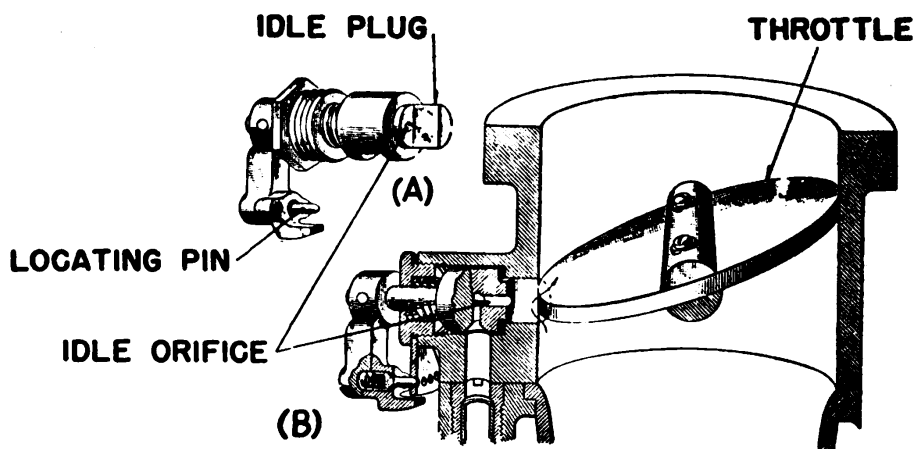

Figure 48.—Idle device used in Stromberg float-type carburetor.
The idle orifice employed in Stromberg carburetors is contained in a plug such as you will see in figure 48, view (A), the actual construction varying somewhat in different carburetor models. The plug that contains the idle orifice is cylindrical, but is cut away at the end to form a semi-cylindrical projection. As you will see in view (B), the end of the projection extends through the carburetor casting to the edge of the throttle valve.
of the open segment of the plug, view (B), is above the edge of the throttle valve, and the other half is below the edge. The upper end of the opening is in communication with the partial vacuum in the manifold above the throttle valve, and the lower end is open to the inside of the carburetor below the throttle valve. The suction in the manifold causes air from below the throttle valve to pass in through the open quarter-segment above the valve, as indicated by the curved arrow, figure 48, view (B). In passing through the bypass, air draws fuel from the idle orifice.
The throttle valve almost universally used in connection with carburetors is the butterfly type, which is illustrated in figure 48. This type of valve not only controls the engine throughout the power range, but serves a secondary purpose of regulating the idling mixture, as already described. For this reason it must be very closely adjusted. When two or more barrels of a carburetor are controlled they are usually synchronized—made to operate exactly in unison—by means of meshing gears carried on the ends of the throttle-valve shafts. The valves must be adjusted to work together, as the regulation of the idling mixture especially requires accurate closing of the throttles. The construction for accomplishing this is described later.